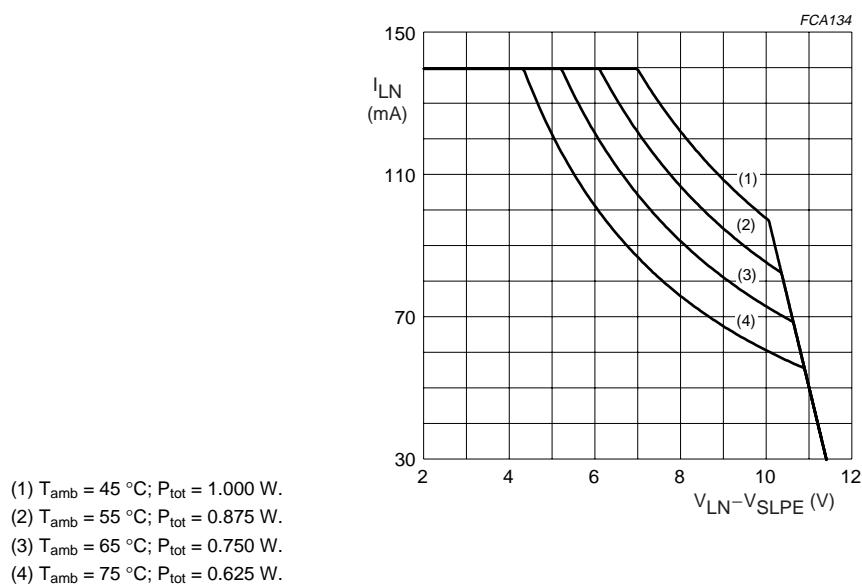

Fig.31 Safe operating area.
- Mostly dependent on the maximum required ambient temperature and on the voltage between pins LN and SLPE (see Fig.31).